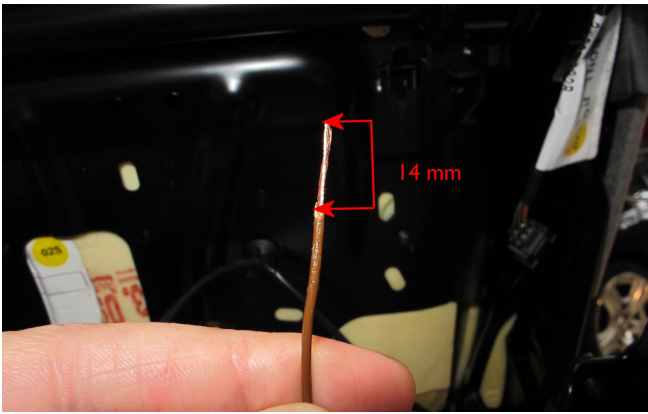

Figure 30
- Referring to Figure 30, remove 14 mm of cable insulator from all four cable ends